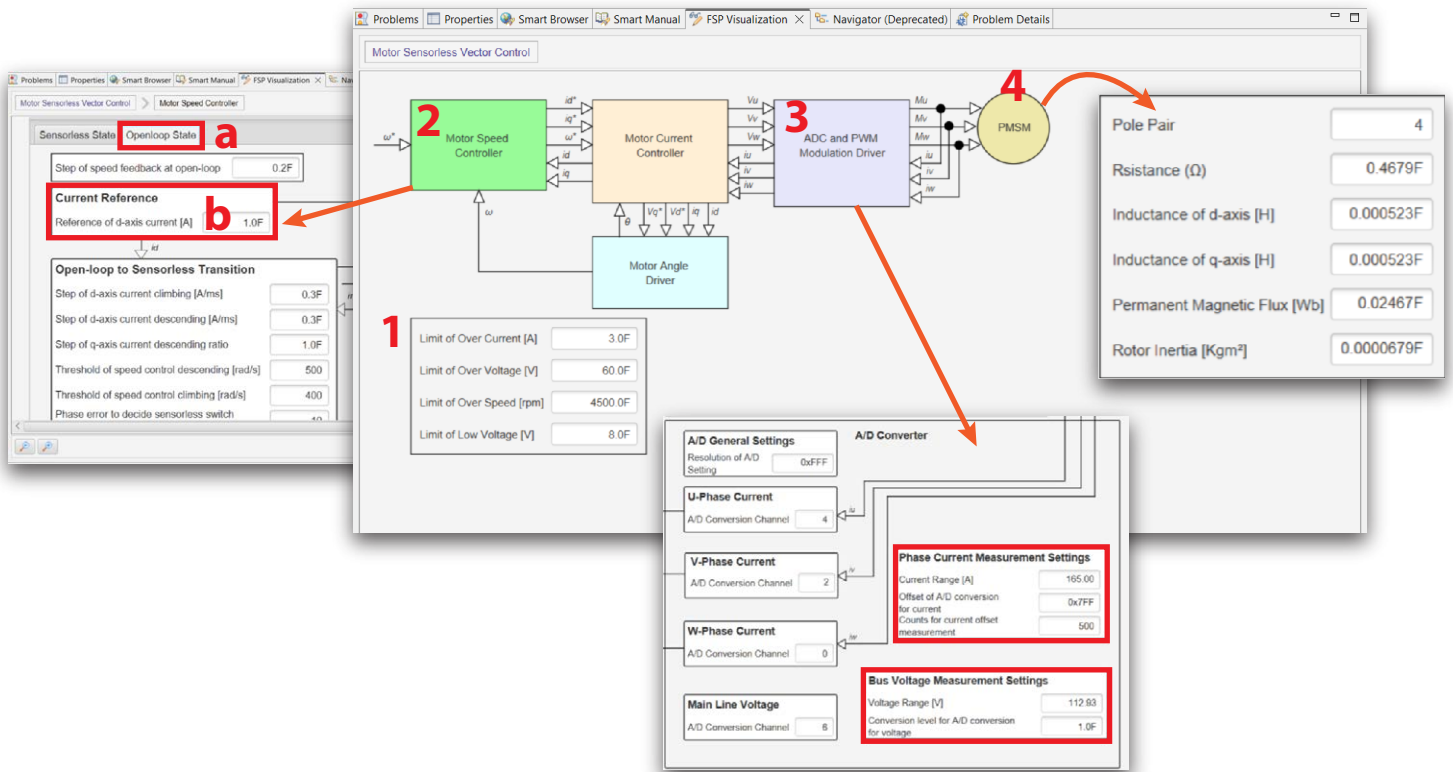

Figure 14: Motor control settings on FSP interface
5. Regarding the FSP visualization figure 14:
- 1) Change the general parameters based on the characteristics of the EPC inverter board connected to the EPC9147D . In figure 14, the hardware parameters shown belong to the power board EPC9194.
- b. Set **1A** on the **Current Reference** section as in figure 14
- 4) Add the **TEKNIC M-3411P-LN-08D** motor main parameters shown in figure 14.